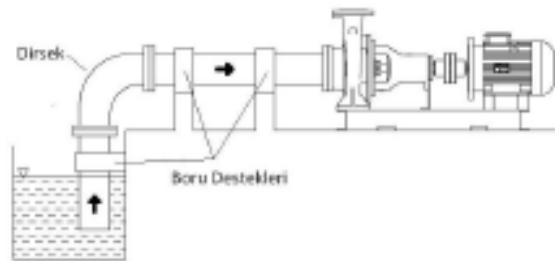

Figure 4 -1 Suction from Depth
- Pipe system should be supported from points which are close to pipe. Figure 4 1/42